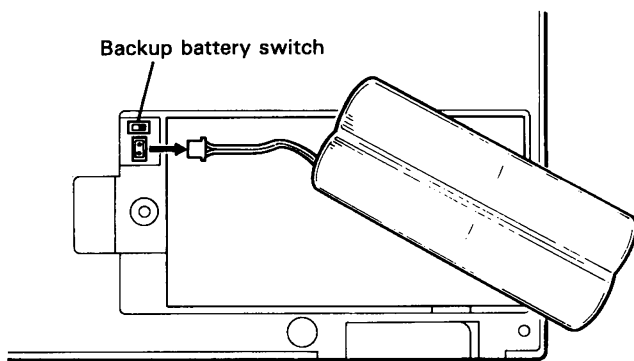

Fig. C.2
- 4) Check the positions of the main battery socket and switch for the backup battery. (Fig C.2)